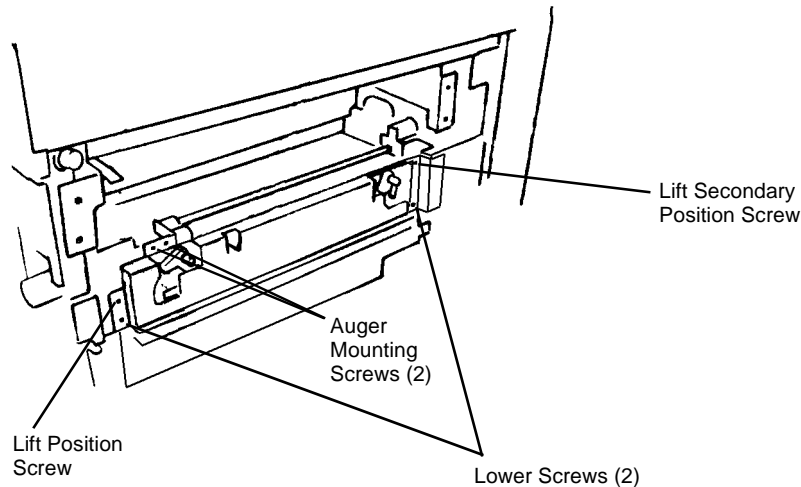

Figure 2 Removing Right Lift Assembly
11. Remove Right Lift Assembly (Figure 2).
- a. Remove Auger mounting screws (2).
- d. Remove lower screws (2).